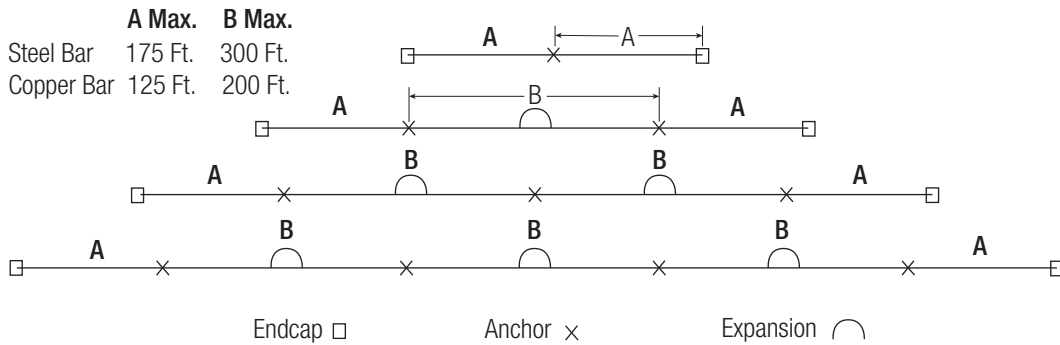

Figure: 8-2
8.1.2 Follow installation drawing, if no drawing is available, see **Figure 8-2**.
8.2.1 Anchor points are required at midpoint on all systems without expansion sections. For systems with expansion sections, anchors are required midpoint between expansions and between the first and last expansions and the ends of the run. See **Figure 8-2**.
- Dimensions "A & B" in **Figure 8-2** are based on a system temperature range of 100° F.